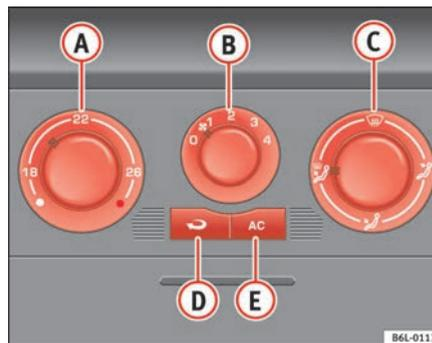

Fig. 91 On the instrument panel: air conditioning controls
- Disconnect the cooling system using button ⇒ fig. 91 **AC** (the button light goes off).
When air recirculation mode is switched on (button  => page 120, fig. 91  with warning lamp) strong odours in the outside air do not enter the vehicle interior, for example when passing through a tunnel or in queuing traffic.